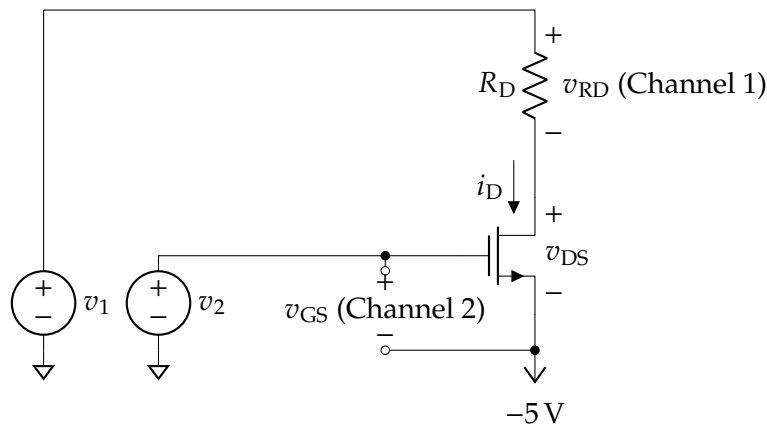

Figure 3.5: Test set for measuring the i_D vs. v_{GS} characteristics.
1. Construct the circuit in figure 3.5. This is almost the same circuit as task 3.7.2, except channel 2 is now measuring v_{GS} .